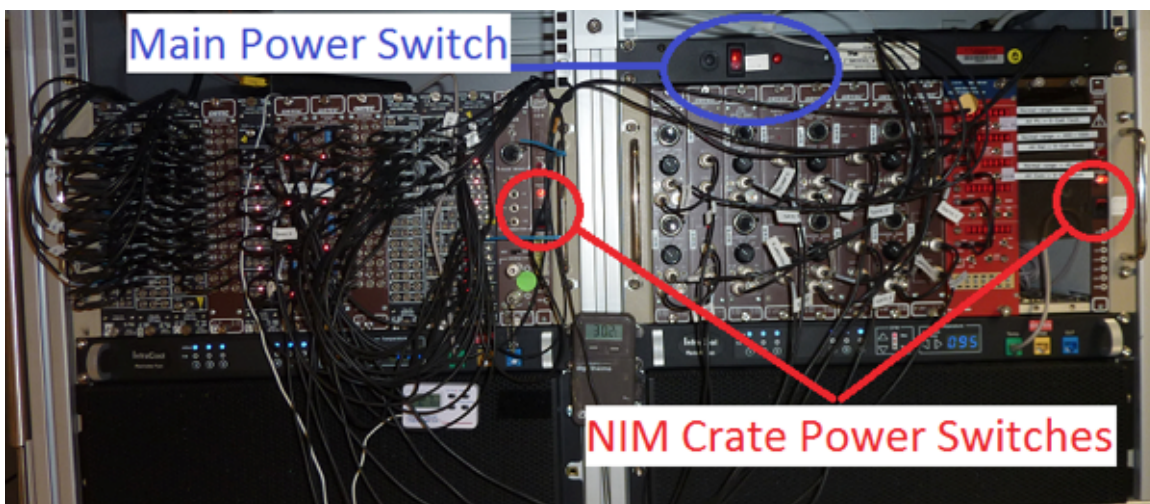

Figure 16. Master Power Switch.
- Turn off the fast signal processing electronics (Fig. 16; leftmost NIM rack).
- Turn off the master power switch above the middle NIM rack (blue circle in Fig. 16).
- This panel is used to define the orientation of the track system, limit switches, and the home switch (Fig. 16). The M-Drive can be used with either a dedicated Home switch or a limit switch as a home switch. In the case of the NGR track we use only a limit switch. There is no home switch installed.